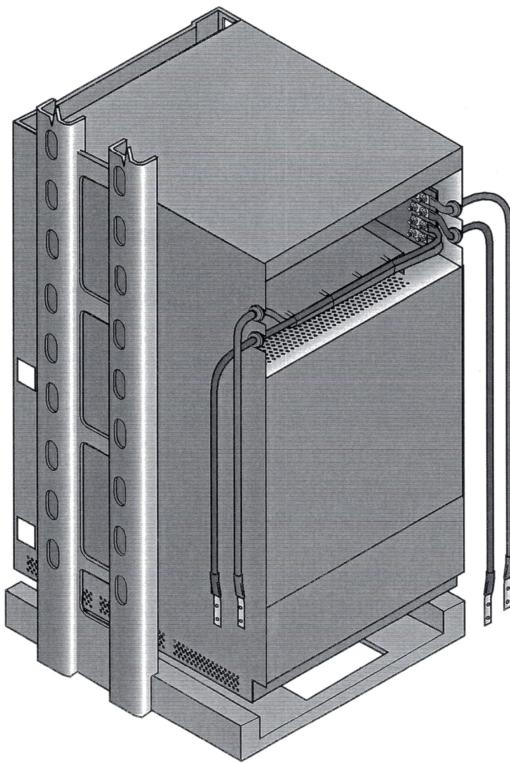

Figure 34 X3 Fabric Shelf with Power and Return Cables Connected (Rear view)
5. Route the red cable that is connected to the N48V A terminal, and the black cable that is connected to the RTN A terminal out the right side of the shelf by placing the grommets that are preassembled on the cables into the cutouts. Place the red cable in the top cutout. See Figure 34.
6. Route the black cable that is connected to the RTN B terminal, and the red cable that is connected to the N48V B terminal out the left side of the shelf by placing the grommets that are preassembled on the cables into the cutouts. Place the red cable in the top cutout. See Figure 34.